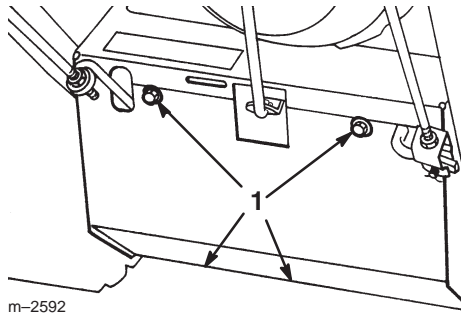

Figure 25
- Remove the four flange-head bolts that secure the bottom cover to the frame and remove the cover (Fig. 25).
- Remove the four flange-head bolts that secure the bottom cover and remove the cover (Fig. 25).